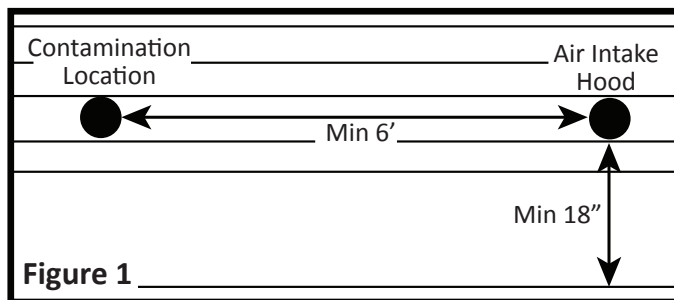

Figure 1
1. In addition to the Caution above, choose a location for the intake air port that is at least 18" above the ground (**Figure 1**) and:
2. Cut a 6¼" hole through the outside wall of the building or use an existing hole if present (**Figure 1**).